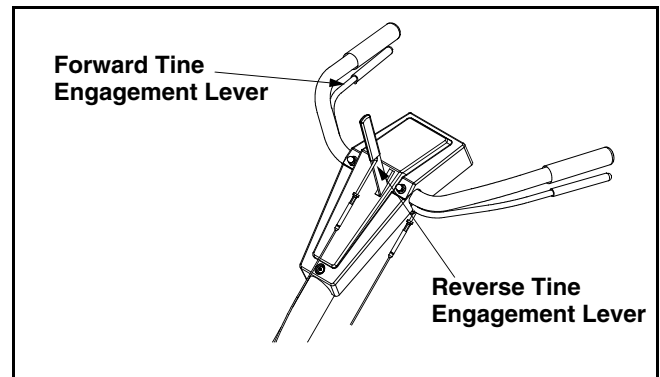

Figure 5
- With tine engagement handle in neutral (released) as shown in Figure 5, pull the starter rope several times. **The tines should not turn.** If they turn forward, loosen the hex nut on the forward cable (underneath the handle assembly). If they turn toward the rear, loosen the hex nut on the reverse cable (above the handle assembly). Unthread the rod from the cable 2 or 3 turns. Retighten the hex nut, and check again for correct adjustment. See Figure 5.
- Make certain all controls are in the neutral position (released). See Figure 5.